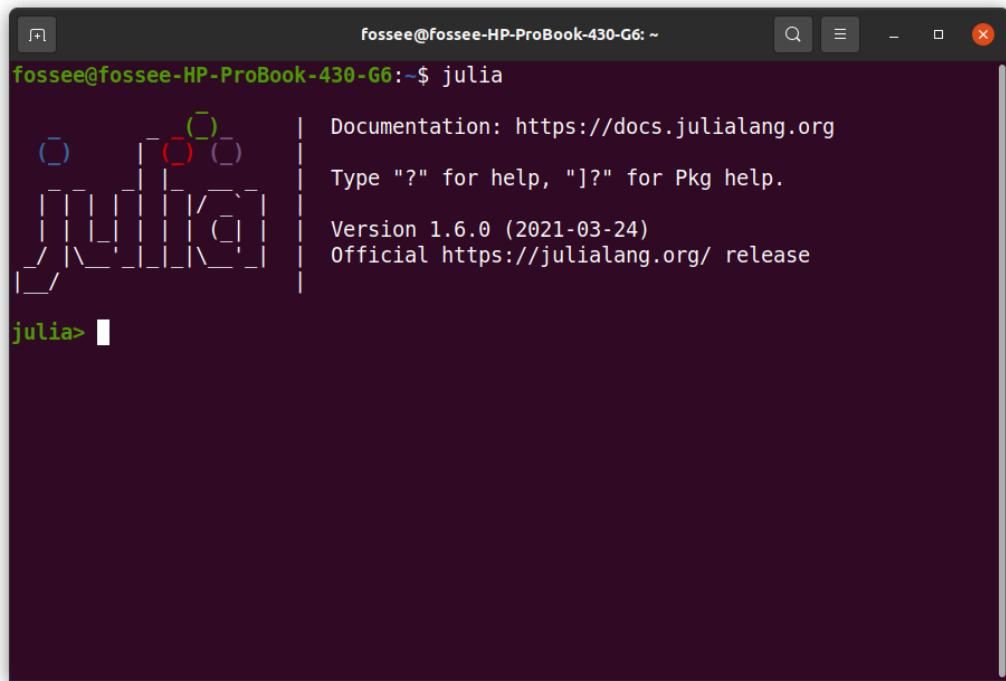

Figure 3.30: Linux terminal to launch Julia REPL
Julia is now installed and can be invoked from the Terminal. In the Terminal, type `julia` and press Enter. It should launch Julia in an interactive session (also known as a read-eval-print loop or "REPL"), as shown in Fig. 3.30. When run
in interactive mode, Julia displays a banner and prompts the user for input. By default, Julia REPL appears in Julian prompt. It is the default mode of operation; each new line initially starts with **julia>**, as shown in Fig. 3.30. It is here that you can enter Julia expressions. Hitting return or Enter after a complete expression has been entered will evaluate the entry and show the result of the last expression.
1. Launch Julia in interactive mode, as shown in Fig. 3.30.
We can also check the status of this package to verify whether it has been installed successfully or not. For this, we need to get back to Julia REPL. Inside **Pkg** REPL, press backspace. The moment you press backspace, you get back to Julia REPL, as shown in Fig. 3.30. Now, type **using Pkg** and press Enter. This command will not generate any output. Now type **Pkg.status()** and press Enter. It should display the list of packages installed in Julia's environment. Please make sure that **SerialPorts** is present in the list of packages being shown. To exit the interactive session, type **CTRL+D** or type **exit()**.